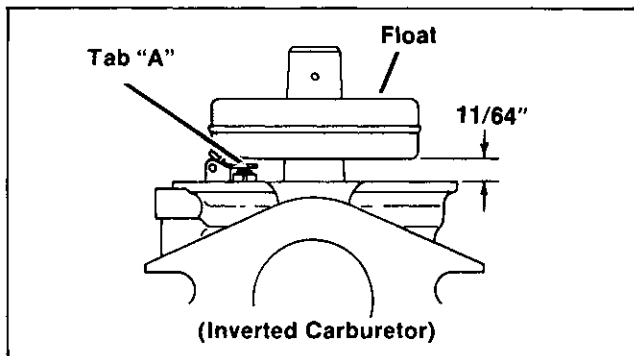

Figure 4-4. Setting Float Level
2. **Set float level.** Invert carburetor—with float resting lightly against inlet needle in its seat, there should be $11/64$ " ($\pm 1/32$ ") clearance between machined surface of casting and free end of float (side opposite needle seat). Adjust by bending float tab "A" with a small screwdriver. See Figure 4-4.